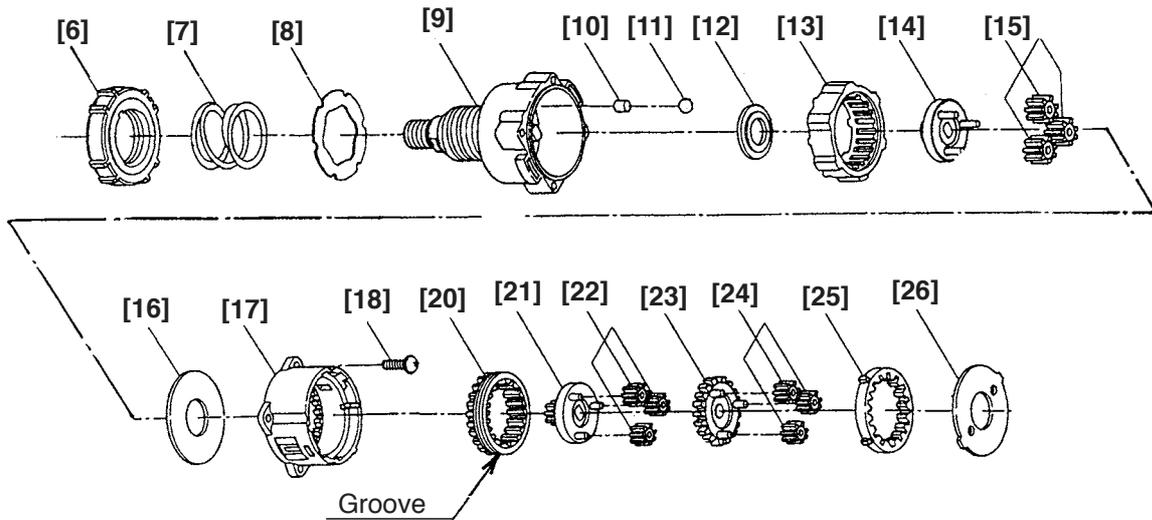

Fig. 7
Screw the Nut [6] in the Front Case [9] about one and a quarter turns. (See Fig. 7.)
(See Fig. 7.)
- (f) Install the Ring Gear [13] and Washer (B) [26] of Planet Gear (C) Set [15] into the assembly reassembled in step (3) (e). (See Fig. 7.)